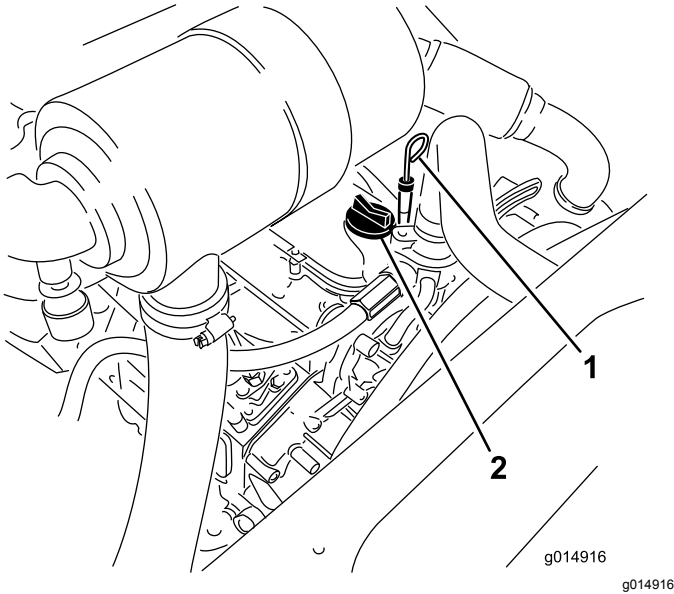

Figure 32
3. Remove the dipstick, wipe it clean, and install it (Figure 32).
5. If the oil level is below the FULL mark, remove the fill cap (Figure 32) and add oil until level reaches the FULL mark on dipstick.